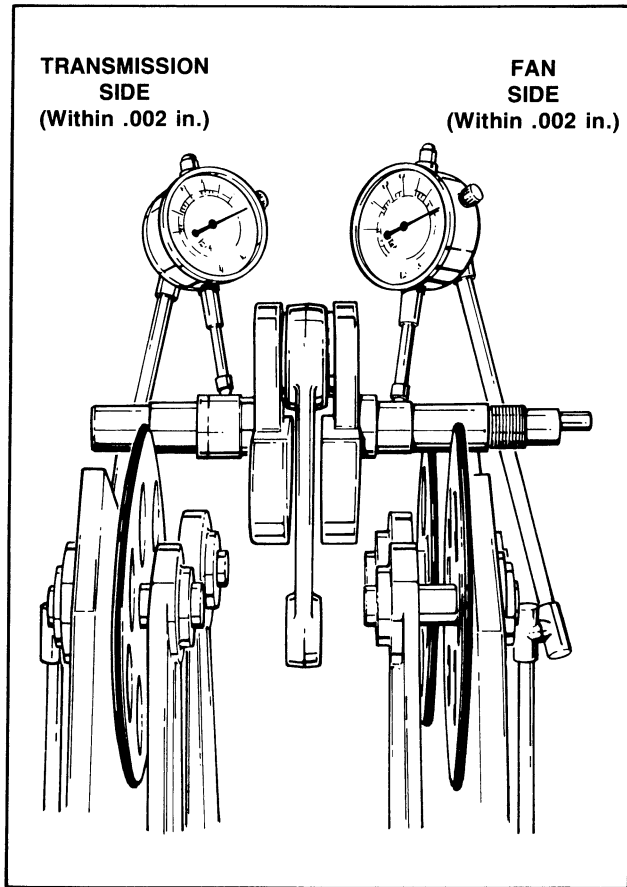

Figure 67 – Crankshaft Runout
- See Figure 67. Using a truing device and dial indicators as shown, check shaft.